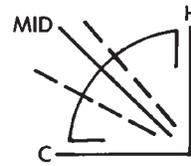

Fig. 3—Normal Reaction to Fan Cycle
(1) a—Normal Fan Cycle Due to Temperature. Rises Slowly—Drops Fast (Fig. 3).